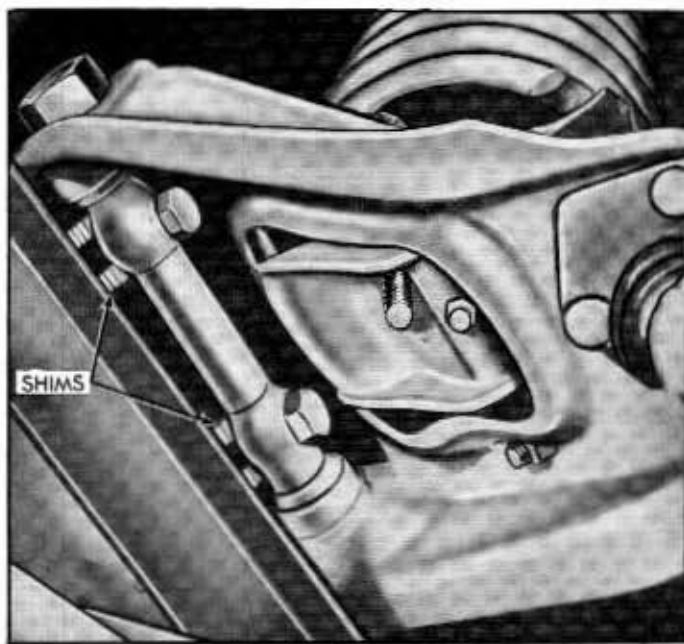

Fig. 3-4—Upper Arm Adjusting Shims—(61CM-404)
2. To adjust camber, remove or install equal shim thickness at both bolts. See figure 3-4. The removal of equal shims at both bolts will move the upper ball joint inward. The installation of equal shims at both bolts will move the ball joint outward. A $\frac{1}{32}$ inch change of shim thickness at both bolts will change the camber angle $\frac{1}{6}^\circ$. The total shim stack thickness at each bolt should not exceed $\frac{9}{16}$ inch. Shims are available in $\frac{1}{32}$ inch and $\frac{1}{8}$ inch thicknesses. The $\frac{1}{32}$ inch shims should be placed against the body-frame or between the $\frac{1}{8}$ inch shims.